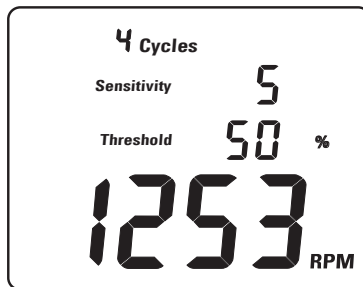

Fig. 4 - Example of display when in Sensitivity or Trigger Level Adjust mode
- 4-The first time the 'Sensitivity Increase' or the 'Sensitivity Decrease' button is pressed, the display will show the sensitivity setting (see Fig. 4), and each time the button is pressed again it will increase or decrease the signal sensitivity. A few seconds after the button is released the display will return to show maximum and minimum readings.
- 3-Press and hold the  (Trigger Level Adjust) button until the minimum reading in the display is replaced by the word "Threshold" followed by a set level number and then a '%' sign (see Fig. 4).